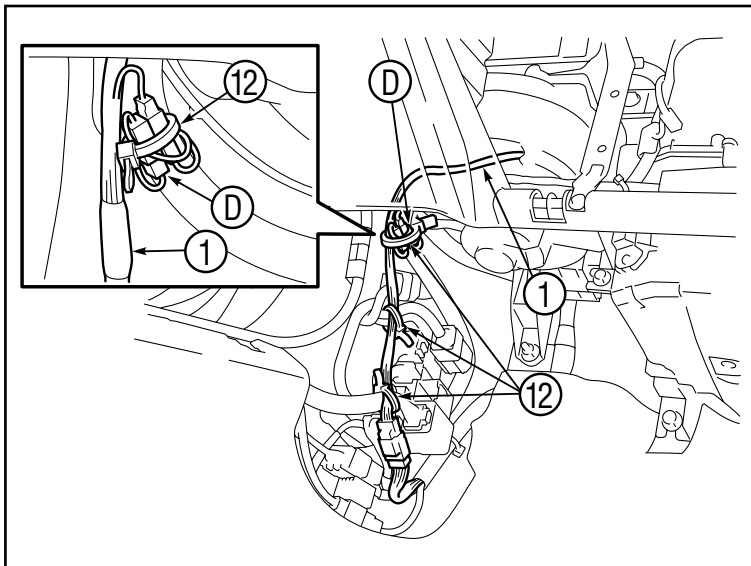

Figure 17
- a) Route the TVSS wire harness (main) ① as shown in Fig. 17.
- b) Secure the TVSS wire harness (main) ① and the connectors ① to the vehicle harness using the wire ties ⑫ (3x).